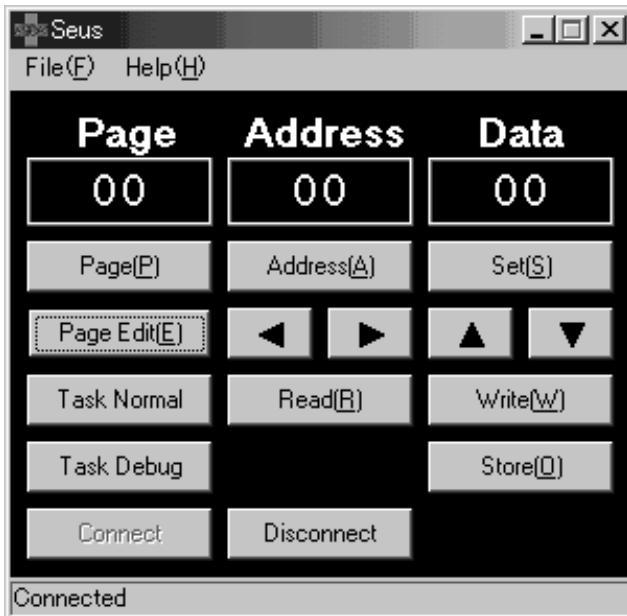

Fig. 6-2-1
- 5) Click **Connect** on the SEUS screen. If the connection is normal, the SEUS screen will be as shown in Fig. 6-2-1, indicating the “connected” state.